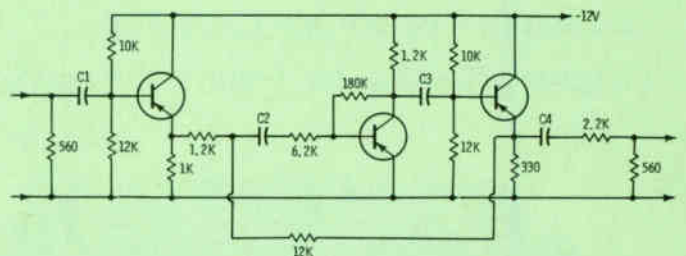

Fig. 3-1. The first transistor circuit discussed. The problem is to align it to give the response described in the previous article.
After working through some theory in Part 2, it will now be necessary to purchase the parts and do some checking. The circuit of Fig. 2-6, repeated here as Fig. 3-1, will be used for this purpose. A dozen or so transistors will be needed. They must have an average current gain of 150, with limits of 120 and 180.
**Fig. 3-3.** The test set-up for aligning the circuit of Fig. 3-1. The trace shown represents -3 db with 45° phase shift, after the scope has been calibrated by setting the trace to a 45° closed line (dashed line) at a midfrequency where there is no phase shift. Electrolytics bypassing the coupling capacitors swamp their low frequency cut-off while individual values are worked on.